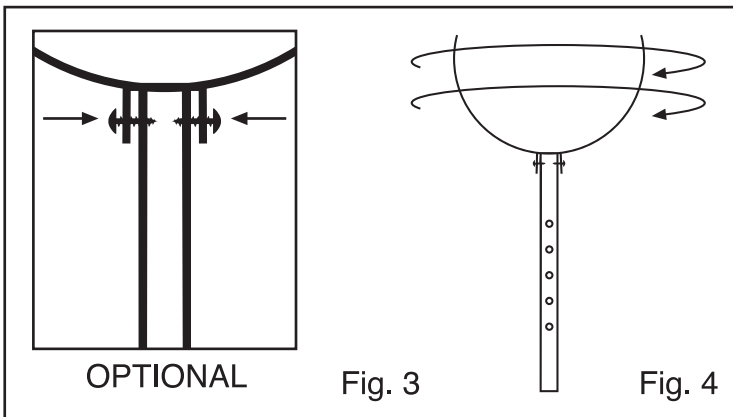

Fig. 3
STEP 2 (OPTIONAL) - INSERT SHEET METAL SCREWS FOR ADDITIONAL SUPPORT (Fig. 3)
STEP 3 - CONTINUE TO DRAW NYLON STRAPPING THROUGH SLOT FOLLOWING THE UNDERSIDE OF THE DUCT SADDLE SLING. THREAD THE NYLON STRAPPING THROUGH THE SLOT ON THE OPPOSITE SIDE OF THE DUCT SADDLE SLING ENTERING THROUGH THE OUTSIDE OF THE SLING (Fig. 3)